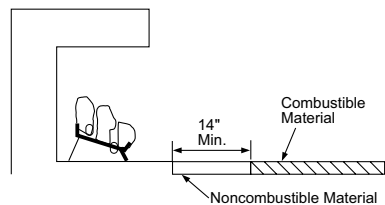

Figure 8 - Minimum Fireplace Clearances If Installed at Floor Level
- A. If installing appliance on the floor level, you must maintain the minimum distance of 14" to combustibles (see **Figure 8**).